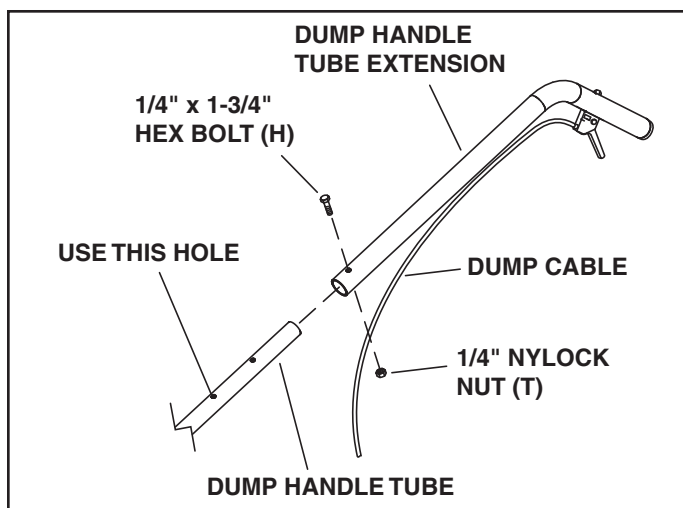

FIGURE 14
STEP 15: INSTALL DUMP HANDLE TUBE EXTENSION (SEE FIGURE 14)
- Install the dump handle tube extension on the dump handle tube using a 1/4" x 1-3/4" hex bolt (H) and 1/4" nylock nut (T).
- Attach the dump cable to the dump handle tube using three cable ties (OO).